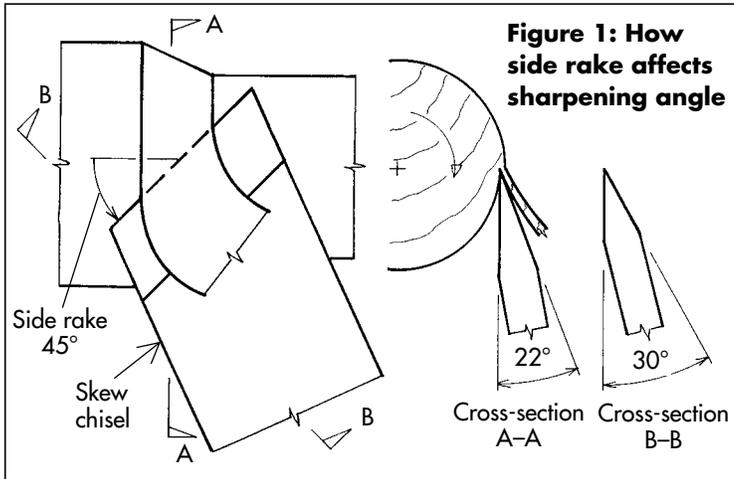

Figure 1: How side rake affects sharpening angle
1. The approaching wood sees a cutting edge with an effectively smaller sharpening angle (Figure 1). The clearance angle is similarly effectively reduced.